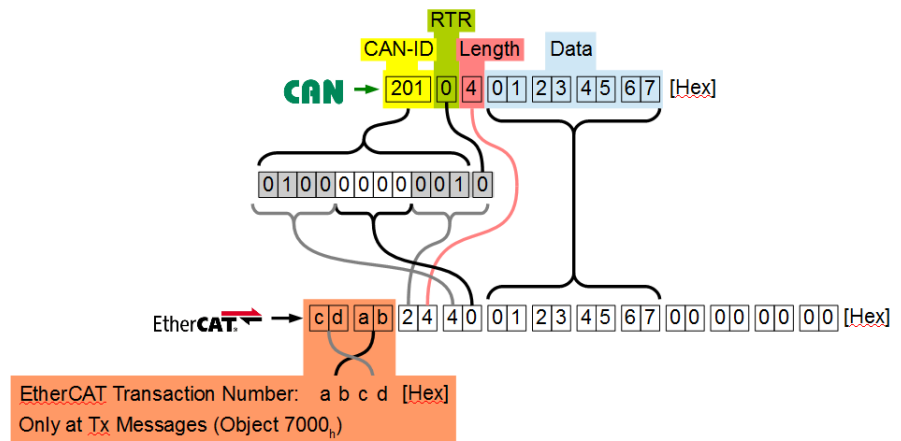

Figure 28: Formatting of the CAN data in the EtherCAT process image (11-bit Rx and Tx)
- Tx Transaction Number* Contains the transaction number of the last sent Tx (see Figure 28)
Tx Transaction Number Contains the transaction number of the last sent Tx message (see Figure 28).
- Tx Transaction Number* Contains the transaction number of the last sent Tx message (see Figure 28).
See Figure 28 on page 44.